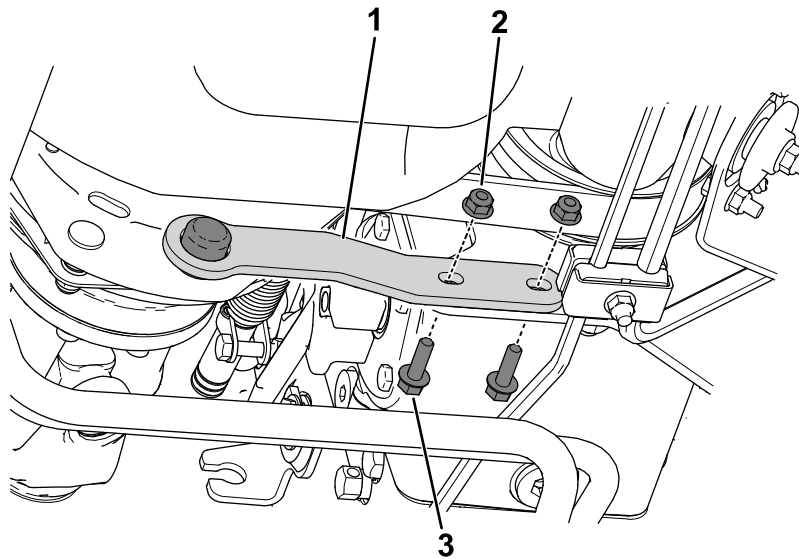

Figure 3
2. Install the clutch strap to the bumper (Figure 3).
3. Use 2 nuts and 2 bolts to secure the clutch strap to the pump-mount bracket (Figure 3).